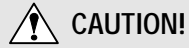

**FIGURE 3-1: KEYCHAIN TRANSMITTER**
1. Refer to **Figure 3-1**. Remove small screw from back of transmitter housing. Insert small, flat bladed screw driver, or similar object, between housing halves at location shown. Twist screw driver to pop halves apart.